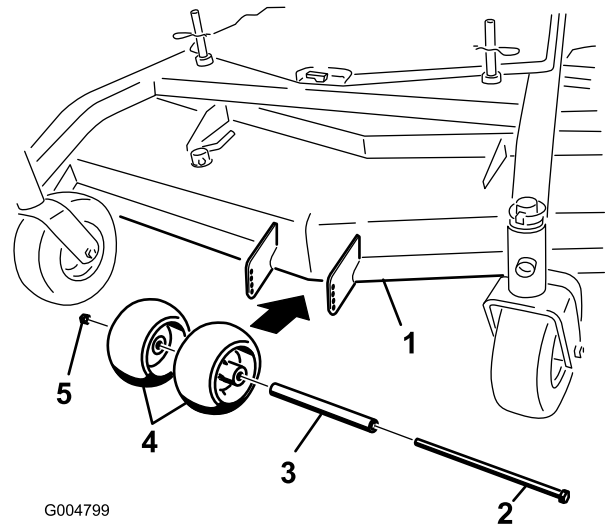
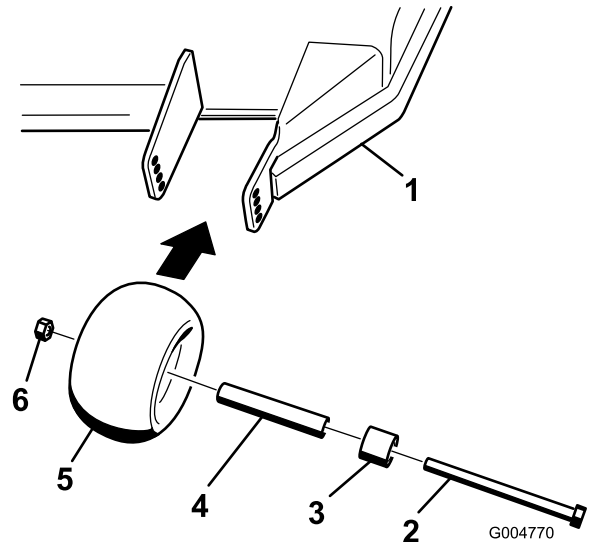
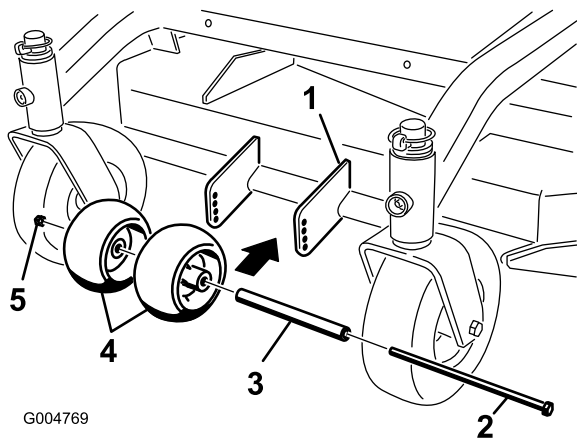

Figure 16
Figure 17
Figure 18
- After adjusting height-of-cut, check the anti-scalp rollers so that there is a minimum of 10 mm (3/8 inch) clearance above the ground (Figure 16, Figure 17, Figure 18).
- If adjustment is needed, remove the bolt, washers, and nut (Figure 16, Figure 17, Figure 18).
- Select a hole position, so the anti-scalp rollers are a minimum of 10 mm (3/8 inch) off the ground (Figure 16, Figure 17, Figure 18).
- Install the bolt and nut (Figure 16, Figure 17, Figure 18).